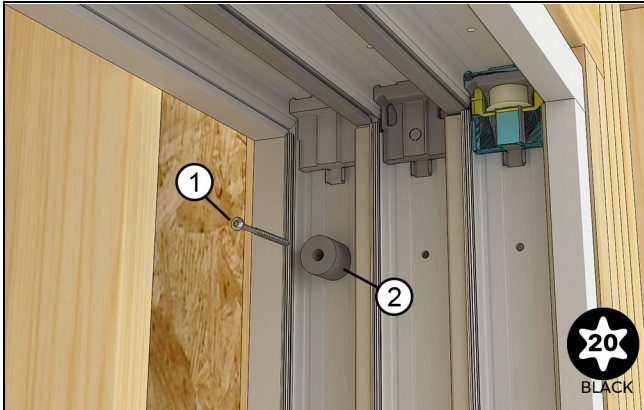

Figure 116 Pocket bumper at head jamb exterior track
1. Install the pocket bumpers on the exterior most jamb track through the top and bottom installation holes using #8x 3" (64) installation screws. If the installation screws are already in place, remove and insert the bumper using the same screw. See Figure 116 and Figure 117.